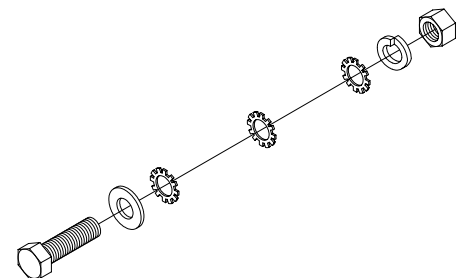

Figure 8.2b
- Cross brace bolted connections should be assembled per Figure 8.2b.